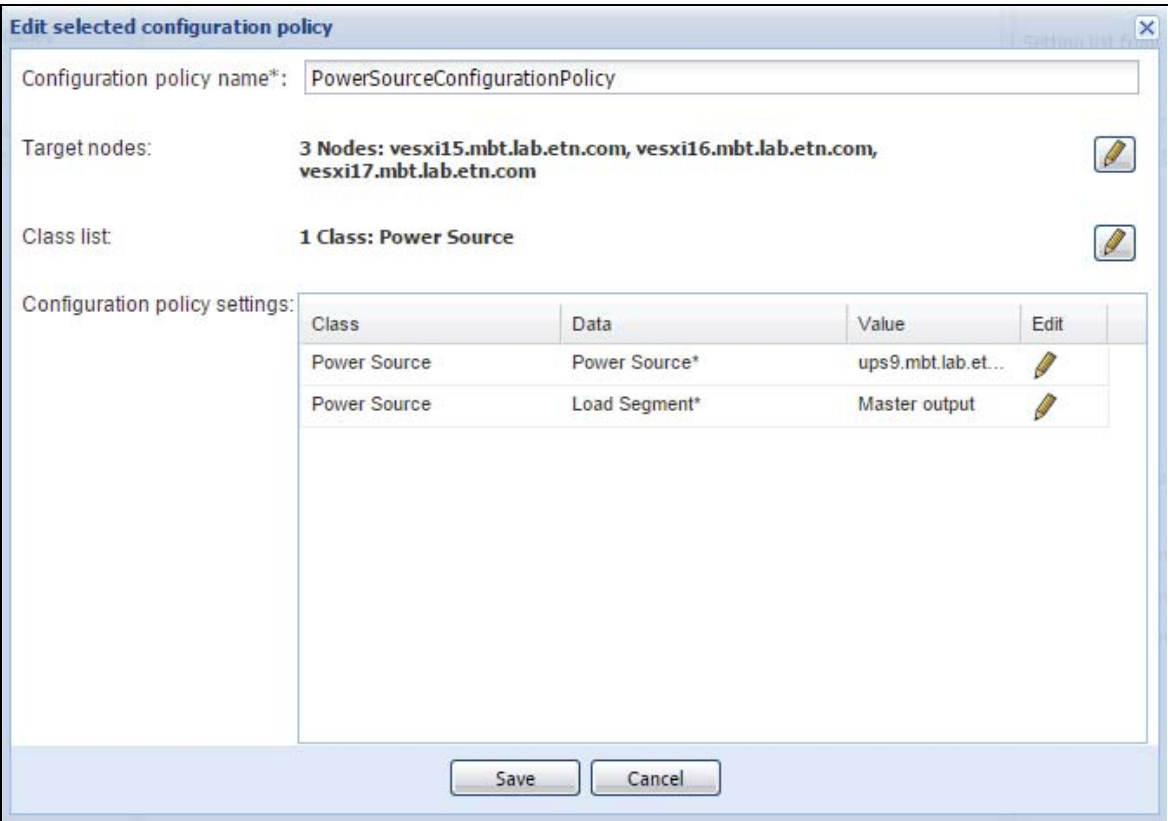

Figure 237. Edit Selected Configuration Policy
7. Then, in the “Configuration policy settings,” configure the correct power source (see Figure 237).